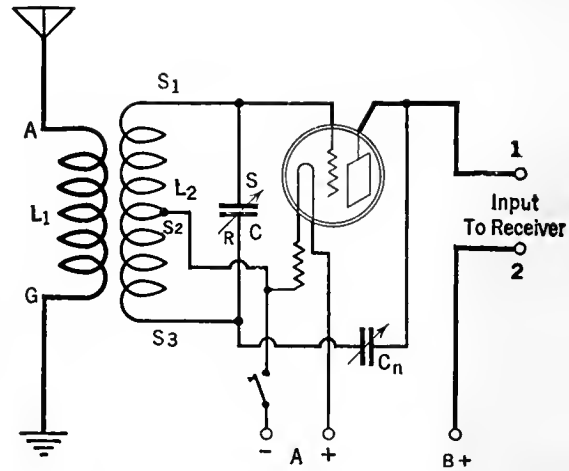
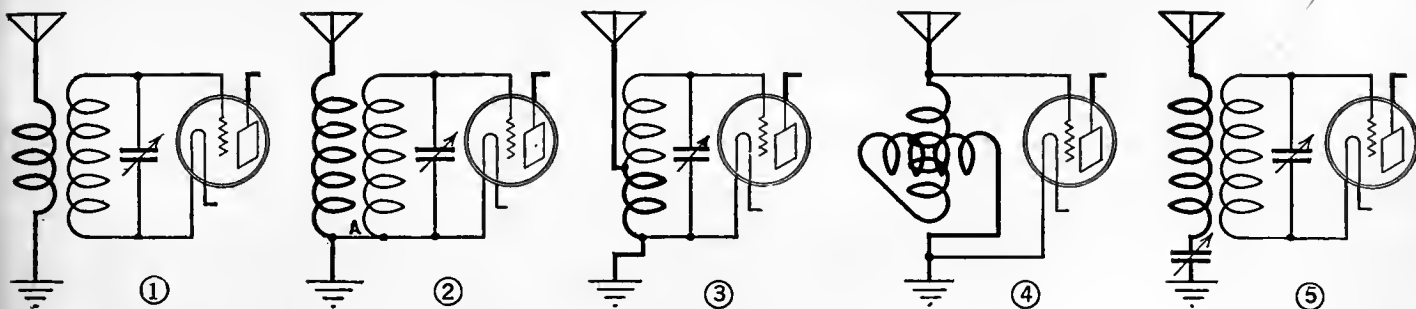
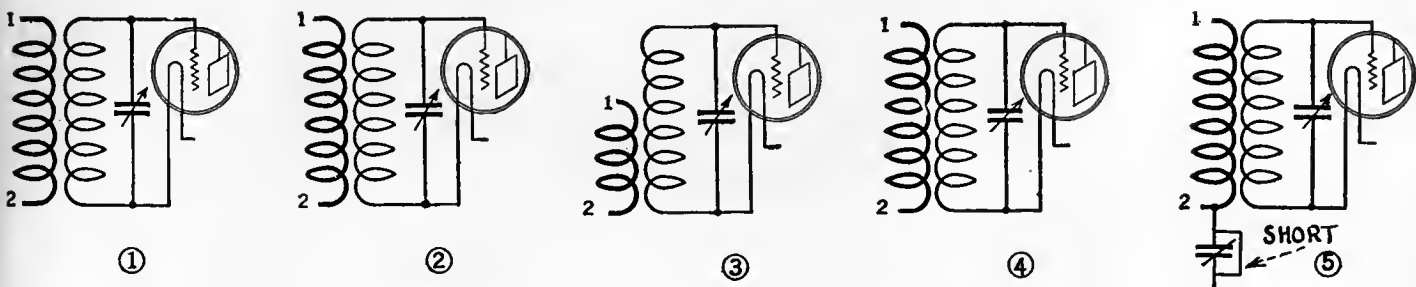

FIG. 7
FIG. 8
FIG. 11
The major reason for using the General Radio instrument in taking the data contained in this article was that it uses a calibrated condenser, which was essential in making these measurements. After the tests with the General Radio and other wave traps mentioned above, a home made trap was tried and results were quite satisfactory in every way. A home made unit, very easy to build, is illustrated in Fig. 8.
A home-made radio-frequency unit adapted for use in this connection is shown in Fig. 7. This design proved to be excellent from the standpoint of adaptability to existing receivers with a minimum number of changes. The completed unit is shown in Figs. 8 and 9. It was constructed in the Laboratory.
One of the diagrams in this Figure is the type of antenna connection used in your receiver. The diagram Fig. 11 shows the adaptation necessary to include an r. f. amplifier-wave trap.
illustrated in Fig. 8. In Fig. 11, we have revised these circuits so as to indicate what changes are necessary in order to attach the radio frequency amplifier. Readers should determine what type of antenna circuit is used in their receiver and then locate it in Fig. 8. The numeral preceding the notes given below refers to Fig. 8 so that the notes concerned with any of the circuits can readily be found.
Refer to Fig. 7 for the schematic diagram of this unit
(4) Practically the only method of adapting the circuit to the amplifier is by removing the variometer and substituting in its place a coil of the same type as in the former circuits. Revised, it appears as in No. 4 Fig. 11.
(5) This circuit is very easily changed over. Connect terminal No. 1 to the antenna terminal on the receiver. Terminal No. 2 should connect to the other end of the antenna coil. An optional method is illustrated in Fig. 11 where the antenna tuning condenser C has been shunted and connection made directly to the ground terminal.
Another photograph of the amplifier illustrated in Fig. 8